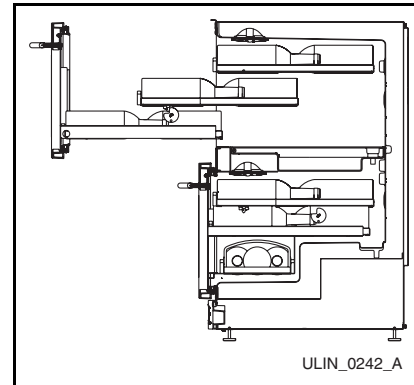

Figure 8
4. Repeat Steps 1 to 3 to stock the racks in the upper drawer (**Figure 8**).